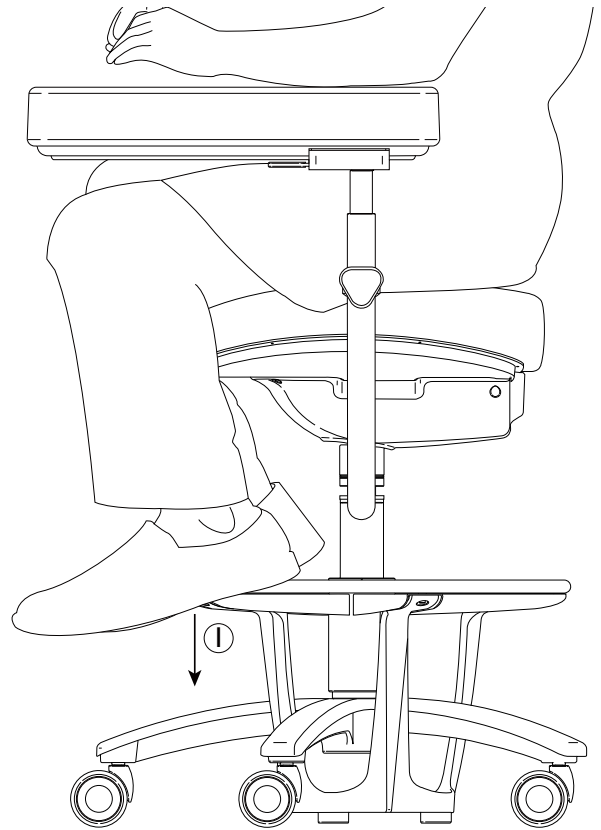

Figure 9: Engaging the Brake
1. Place your feet firmly anywhere on the Foot Ring (Figure 9, item 1) while in the seated position, and the brake mechanism will engage.